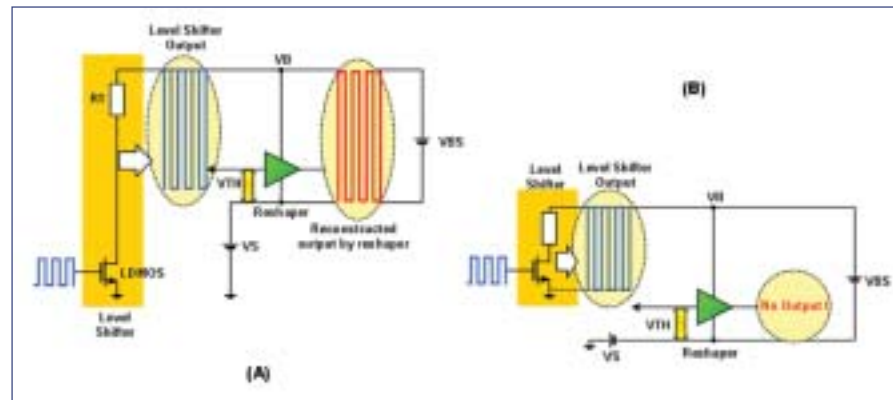

Figure 2. Allowable negative VS problem: (A) $V_S > 0$, and (B) $V_S < -V_{TH}$.
V_B and V_S are the highest and lowest voltage of the high-side driver, respectively. The voltage difference, V_{BS} , is almost constant by the bootstrapping capacitor, CBOOT, and a bootstrapping technique. V_S , however, depends on the half-bridge output, since V_S is supposed to be connected to the source of the external MOSFET or the emitter of the external IGBT. An ideal HVIC must operate regardless of the V_S voltage situation. For a real HVIC, however, V_S heavily affects the operation. Some examples of the HVIC operation versus V_B are depicted in Figure 2 as described in the following (A) and (B):